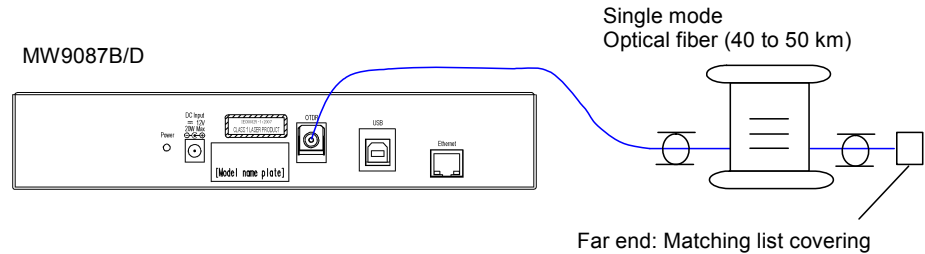

Figure 5.1.6-1 Linearity Measurement Setup
1. Connect the measurement equipment to the mainframe as shown in Figure 5.1.6-1.